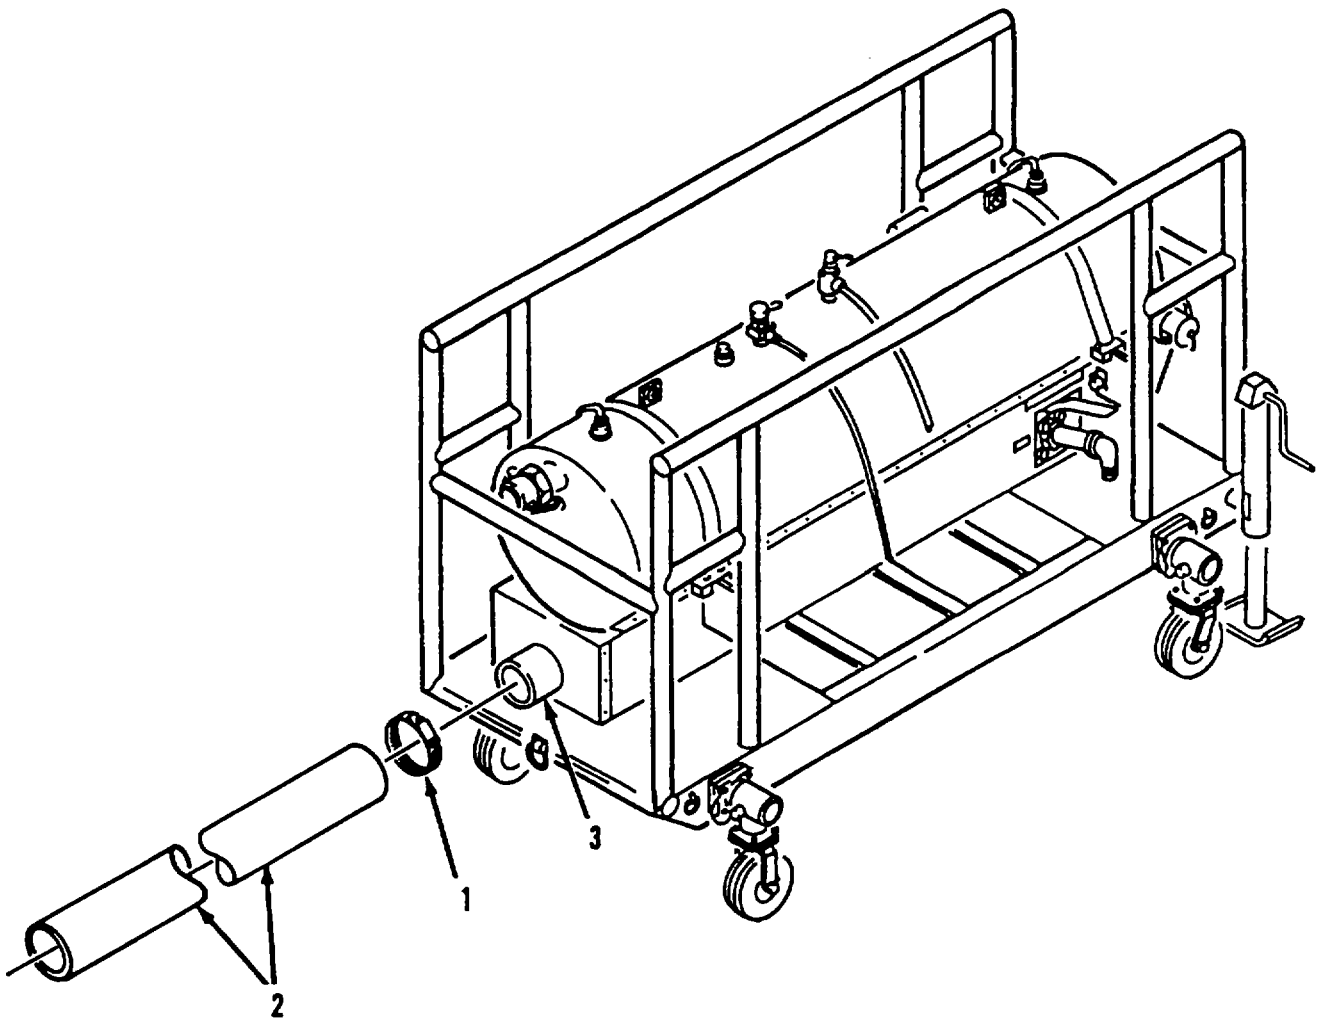

Figure 2-13. Air Duct Connection.
g. Air Duct Connection (Refer to Figure 2-13).